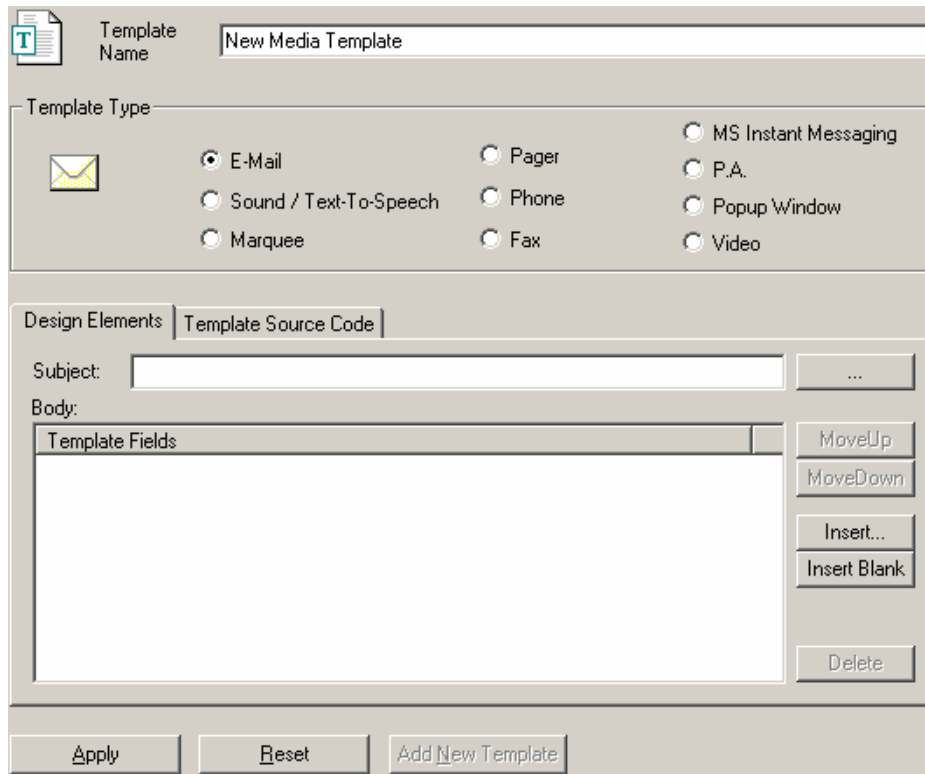
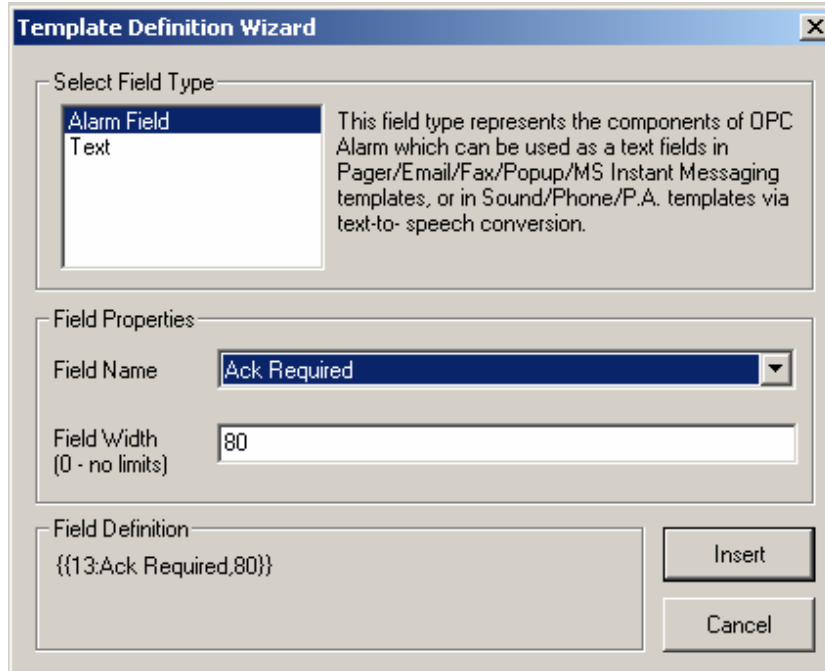

Figure 5.2. New Media Template Configuration
Figure 5.3. Template Definition Wizard Dialog Box
2. The new media template appears along with the configuration dialog box shown in **Figure 5.2**. In the **Template Name** field, enter a name for the template you are creating.
- Click on the **Design Elements** tab of the template configuration dialog box, shown in Figure 5.2. If you are configuring a template with an option to enter a subject field, you may do so by clicking on the ... button to the right of the **Subject** field. This opens the **Template Definition Wizard** dialog box, shown in **Figure 5.3**, which contains a list of available field types to add. For a list of field types, please see the "Template Field Types" section later in this chapter. Choose a field type and select from the additional options under **Field Properties**; and then click **Insert**. If you wish to change the order of the fields or to delete a field, use the appropriate buttons to do so. The **Insert Blank** button will insert a line break.
The following is a list of all template field types. When configuring a media template, clicking the **Insert** button on the **Design Elements** tab of the template configuration dialog box, shown in Figure 5.2, to display which field types are available for that particular template type.
The templates for the Marquee, Popup, and Video agents can respond to simple HTML tags used to define the appearance of alarm data upon the agents' loading. If you are comfortable using HTML and are comfortable with the organization of the multimedia templates, you may find it simpler to write HTML directly into the **Template Source Code** field (see Figure 5.3) designed for advanced users. Information on how HTML is handled in each agent is shown below.